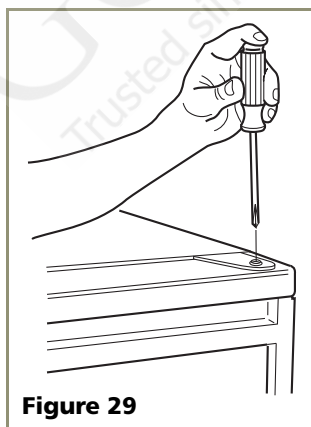

Figure 29
1. Remove top hinge screw pin (Phillips screwdriver, see **Figure 29**). Remove door by tilting forward and lifting off bottom hinge pin.